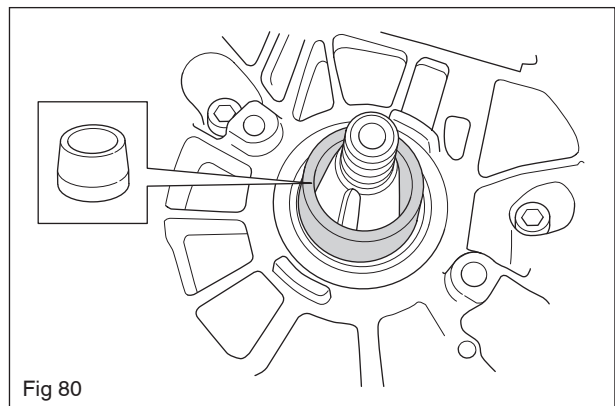
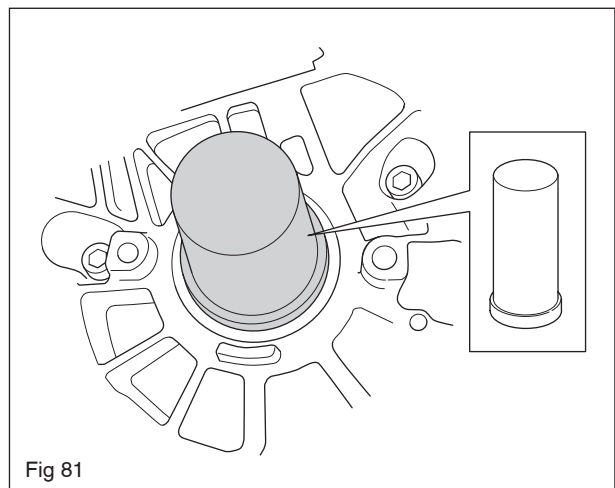

Fig 80
Fig 81
4. Slide the dowel 575 34 69-01 (figure 80) on the crankcase pin. Knock the new sealing ring in place using the 575 34 70-01 tool. See Figure 81.